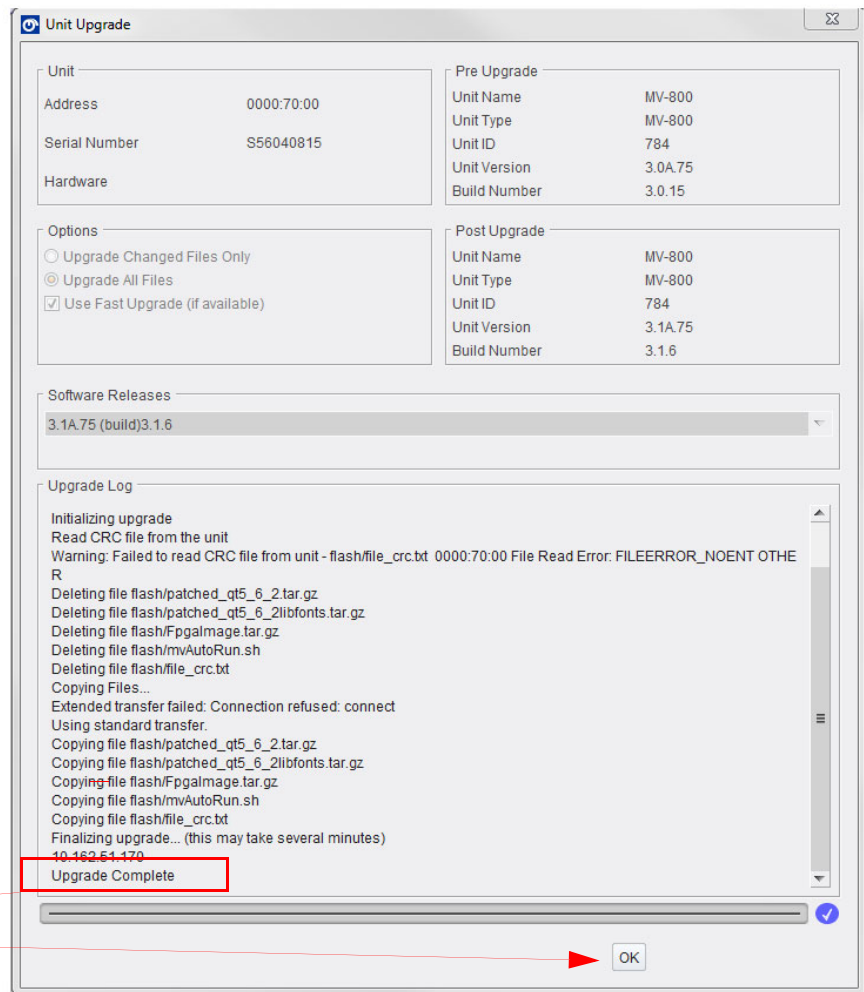

Fig. 11-14: Typical Upgrade Log Messages - Upgrade Complete
- 11 An ‘Upgrade Complete’ message finally appears in the Update Log pane of RollCall Control Panel when the upgrade is done. See Figure 11-14 for typical **Update Log** messages.